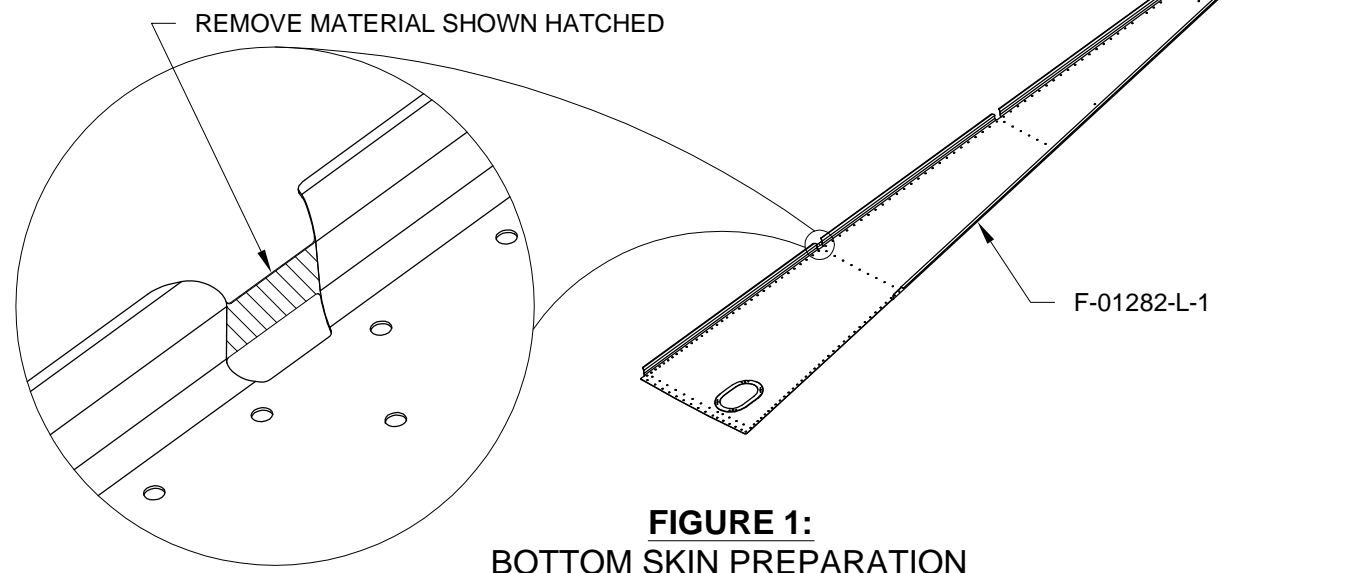

FIGURE 1:
Step 2: Trim the called out material from the F-01282-L-1 Bottom Left Skin as shown in Figure 1.